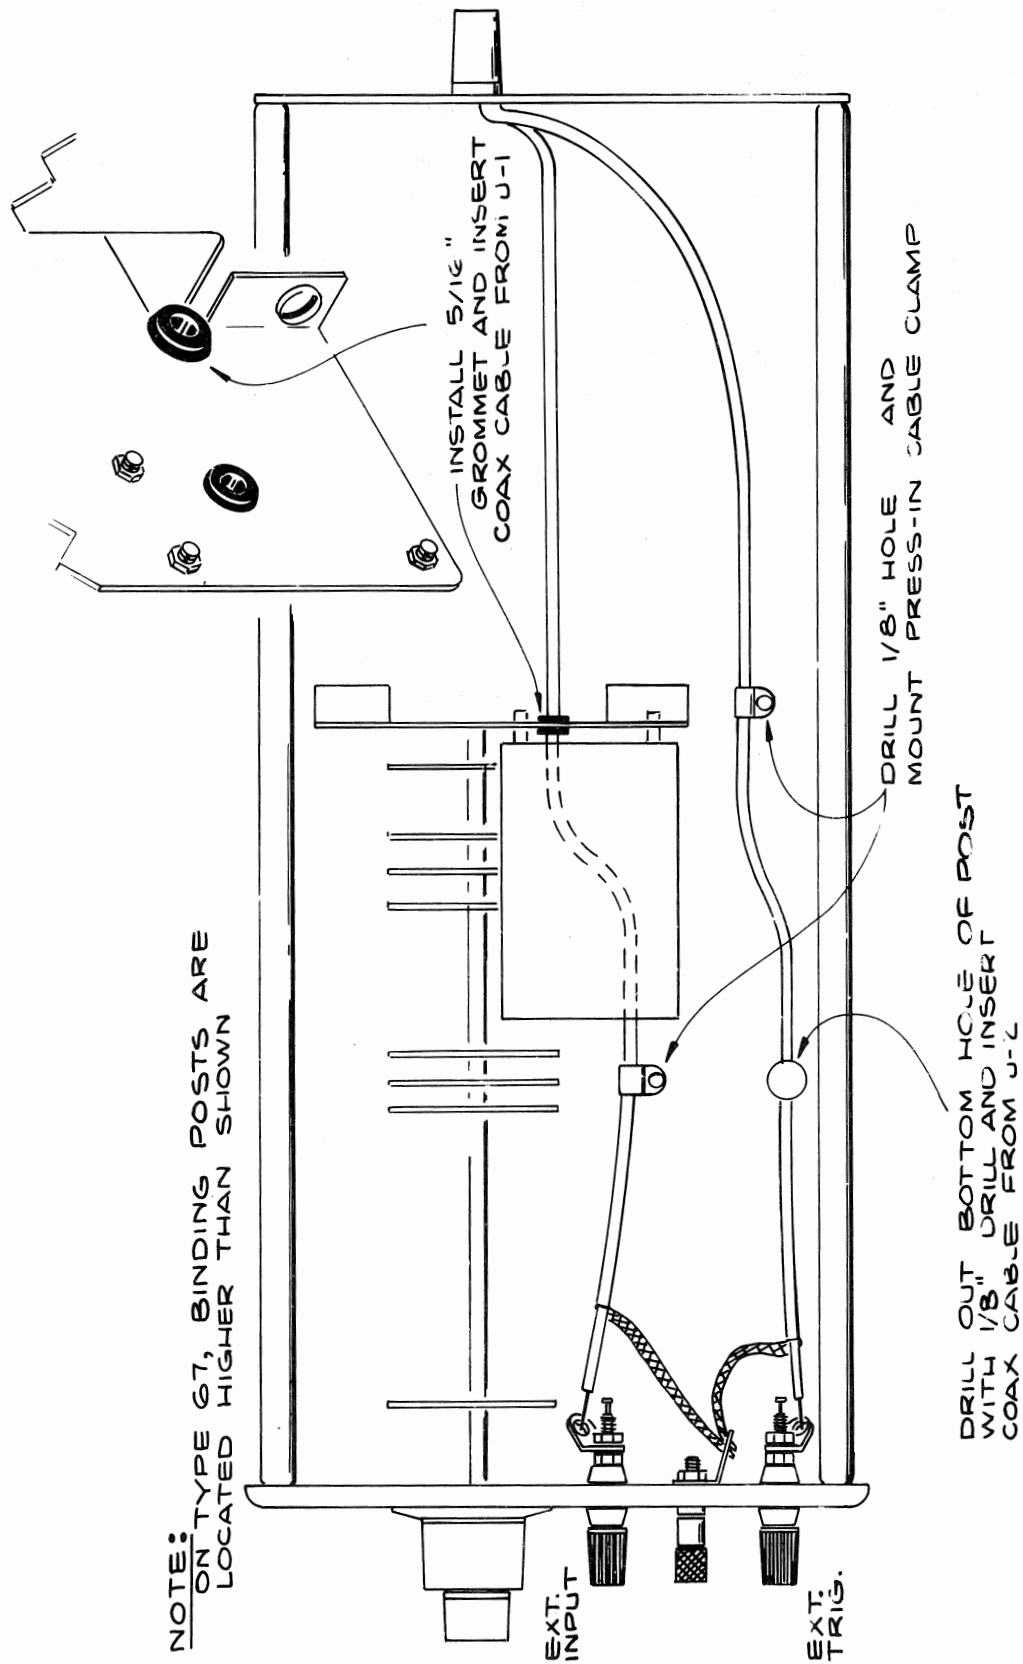

Fig. 6, 67/2B67
**IMPORTANT:** Select the proper step below, plus the portion of Fig. 6 which applies, to connect either the EXT INPUT or the EXT TRIG binding post to the rear panel.
#### 1. EXT INPUT (see top portion of Fig. 6):
#### 2. EXT TRIG (see bottom portion of Fig. 6):